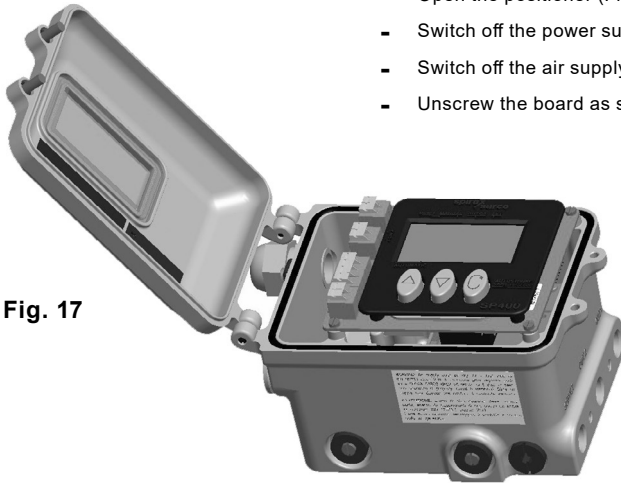

Fig. 17
- Open the positioner (Figure 17).